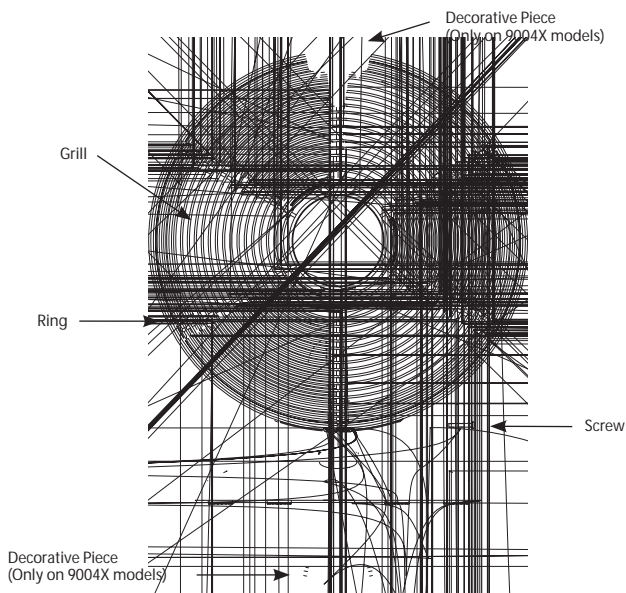

FIGURE 4
2. Disassemble grills by carefully removing the screw on the bottom of the ring. See Figure 4.